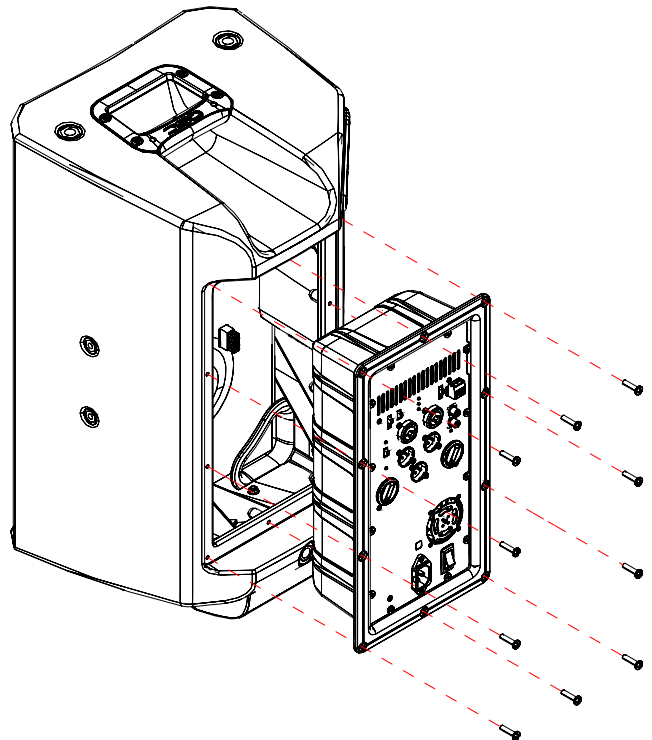

Figure 5.1 - BOP removal from a top-box model
2. Partially remove the amplifier module out of the main enclosure as seen in Figure 5.1.